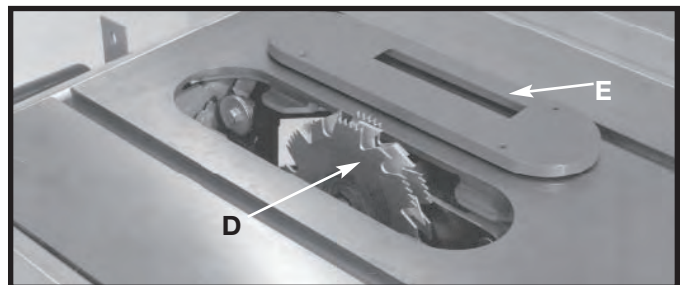

Fig. 47
2. Attach the dado head set (D) Fig. 47, to the saw arbor.
CAUTION THE DADO HEAD SET TABLE INSERT (E) FIG. 47, MUST BE USED IN PLACE OF THE STANDARD TABLE INSERT. THIS IS AVAILABLE AS A SERVICE PART THROUGH A BLACK & DECKER SERVICE CENTER.